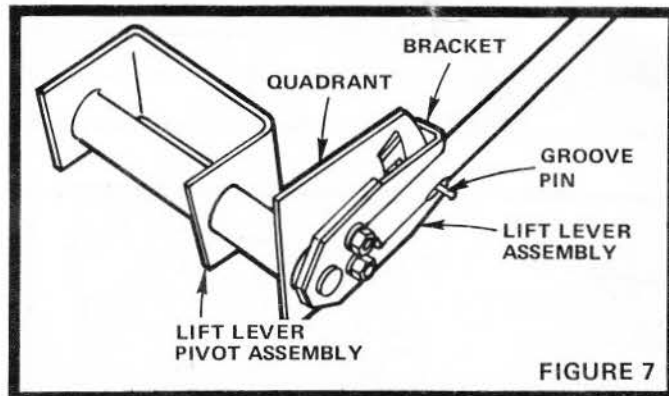

FIGURE 7
- b. Straddle Quadrant with Bracket and tap in Groove Pin with hammer. Pin must pass through Quadrant and into opposite side of Bracket (Fig. 7).